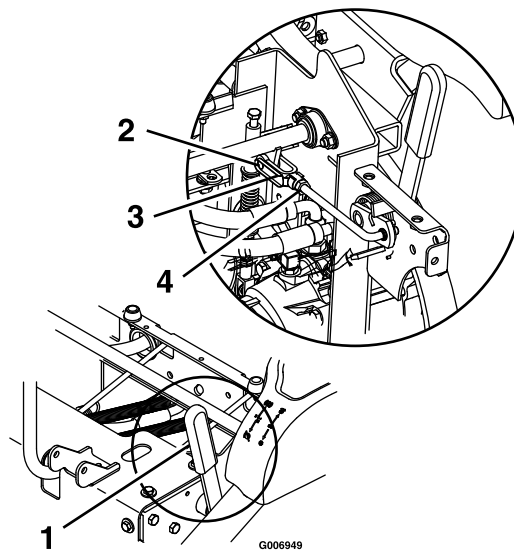

Figure 15
3. The brakes on both sides can be simultaneously adjusted by lengthening or shortening the linkage shown in Figure 15.